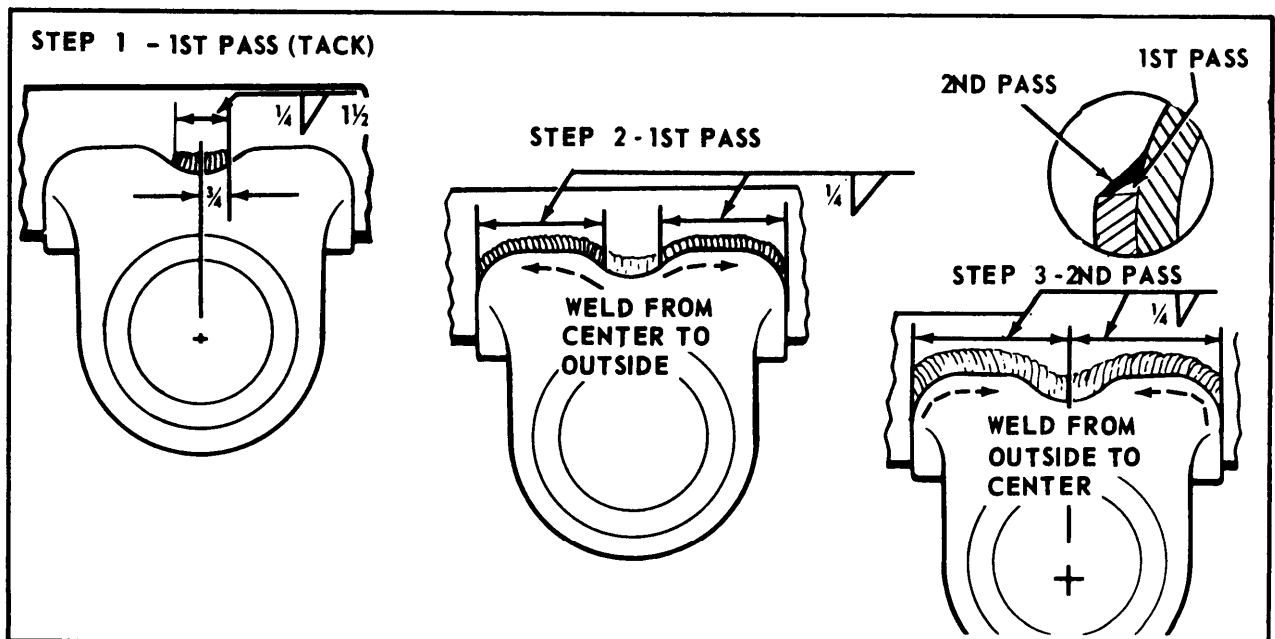

FIGURE 10-18. WELDING CAST BUSHING RETAINER TO THE AXLE.
o. Check all clearances and weld the cast retainer on the axle using 5/32 (3.97 mm) E7018 electrode (see figure 10-18). Peen immediately after welding.